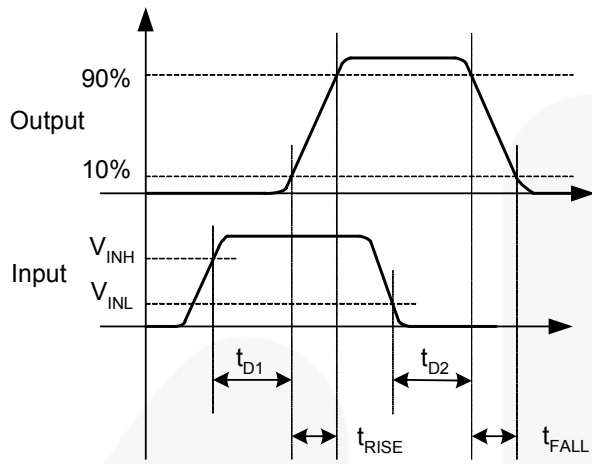
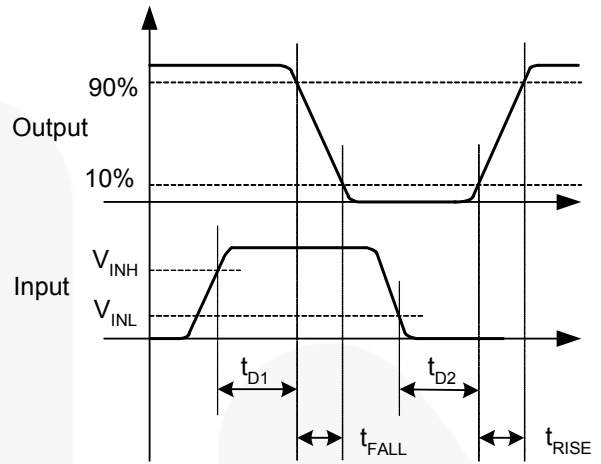

Figure 7. Non-Inverting
Figure 8. Inverting
- See Timing Diagrams of Figure 7 and Figure 8.